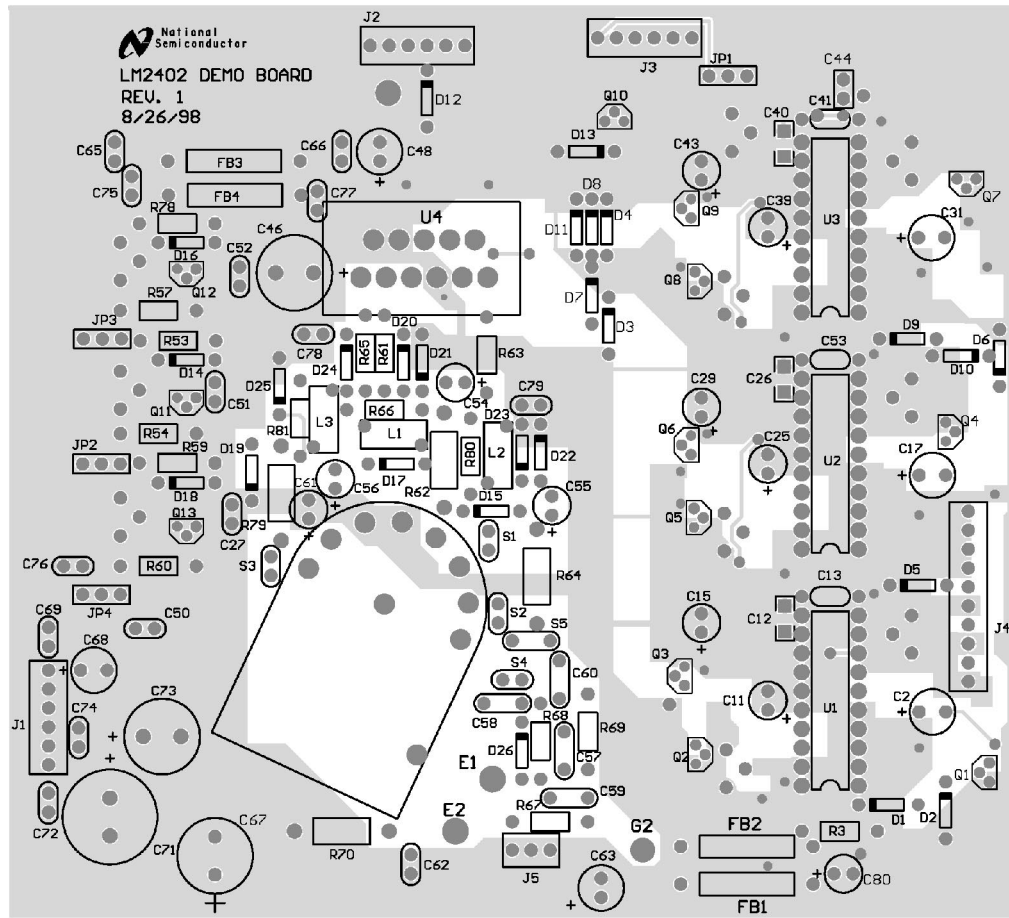

FIGURE 11. PCB Top Layer
*Figures 11, 12* show routing and component placement on the NSC LM2202/2402 demonstration board. The schematic of the board is shown in *Figure 10*. This board provides a good example of a layout that can be used as a guide for future layouts. Note the location of the following components:
- C46 and C77 - VCC bypass capacitors, near LM2402 and VCC clamp diodes. Very important for arc protection. (*Figure 11*)